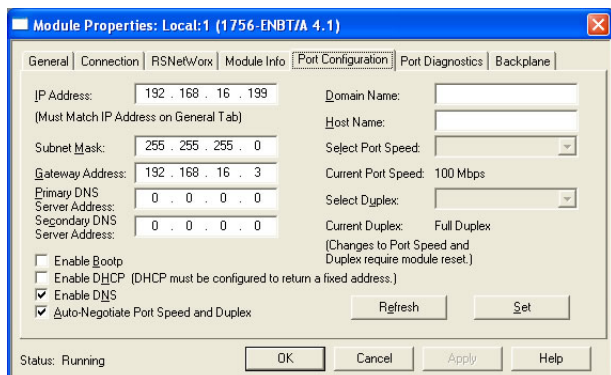

Figure 76: Confirming the Module's Properties
- 11) Confirm that the IP Address, Subnet Mask and Gateway Address fields are configured correctly. The IP Address must match the IP Address entered when the new module was first created. Refer to Figure 76.